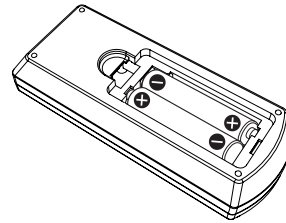

Fig.2
- 2) Insert batteries and close the cover. (Insert the "⊖" side first.) (Fig. 2)